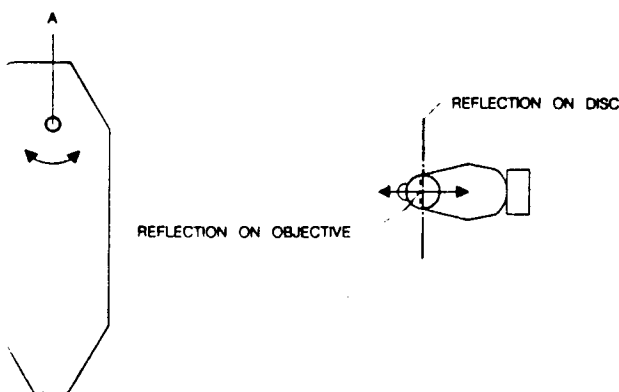

Fig. 18
- ii. Now turn the adjusting screw back so that the reflections are directly on top of each other, see fig. 18.